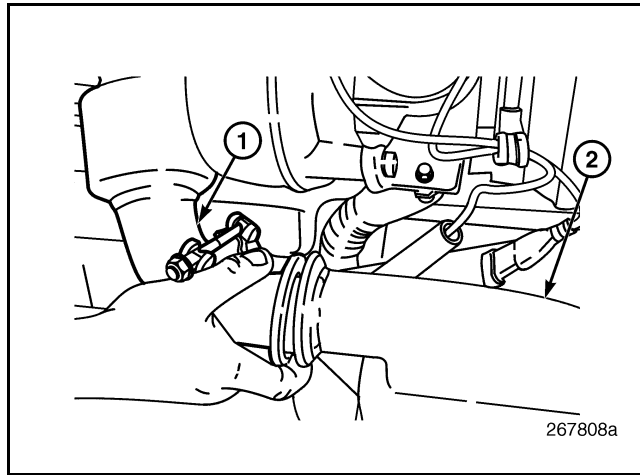

Figure 493 — Hot Tube-to-Cooler Connection
2. Loosen and remove the hot tube clamp at the EGR cooler gas inlet port (Figure 493).